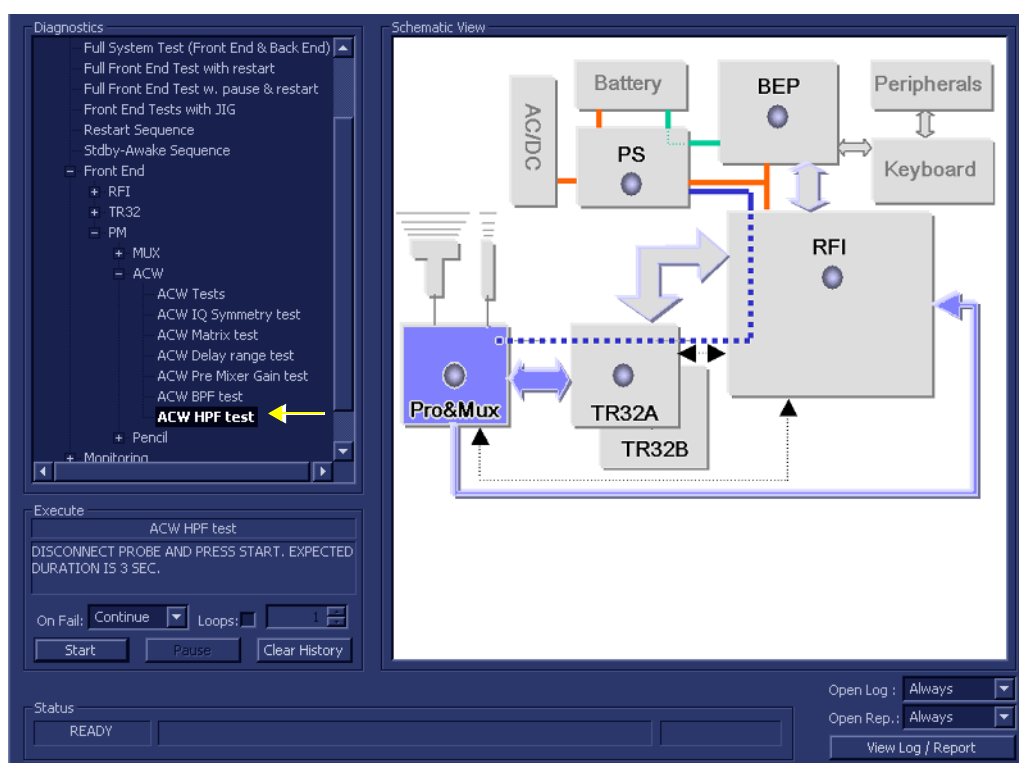

Figure 7-52 ACW HPF Test
- 1.) In the *Diagnostic Test* window, trackball to **ACW HPF Test** in the list of ACW tests available for selection from the Diagnostic Test Tree (see Figure 7-52 below) and press **Set**. The ACW HPF Test name is displayed under *Execute*; the relevant system components to be tested are highlighted light blue in the Schematic View (P&M), as shown below: